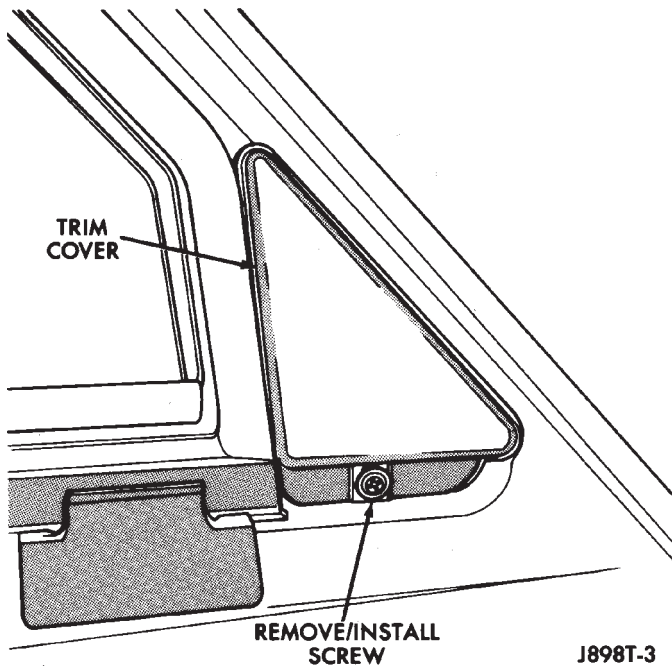

Fig. 5 Power Mirror Trim Cover—XJ
(8) Remove screw holding mirror trim cover (Fig. 5).